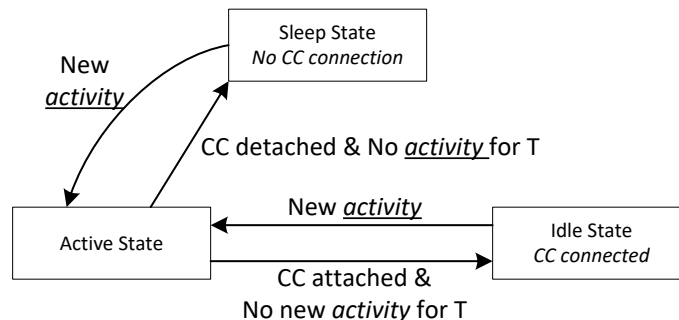

Figure 7-24. Flow Diagram for Power States
- (1) See Table 7-5 to see the exact meaning of I²C Address Index.
- (2) See Table 7-2 for how to configure a given ADCINx decoded value.
The TPS26750 can operate in one of three different power states: Active, Idle, or Sleep. The Modern Standby mode is a special case of the Idle mode. The functionality available in each state is summarized in Table 7-7. The device automatically transitions between the three power states based on the circuits that are active and required. See Figure 7-24. In the Sleep state, the TPS26750 detects a Type-C connection. Transitioning between the Active mode to Idle mode requires a period of time (T) without any of the following activity: